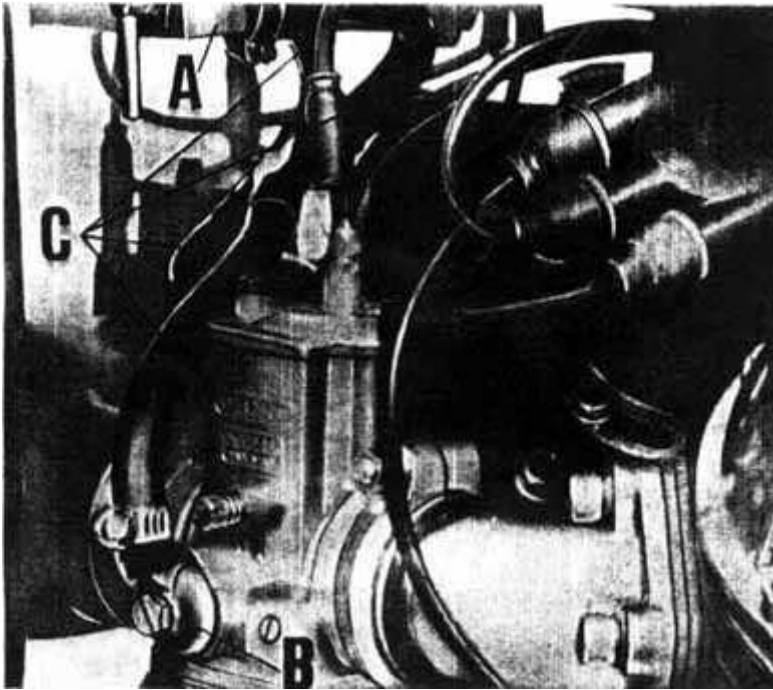

Fig. 20
**Filters and fuel lines** \(see fig. 20\) [\[return to index\]](#)
Every 10.000 kms. or so (6000) miles or any time fuel flow to the carburetors is not regular, it is necessary to check if there are no leakages at the fuel line connections (See C fig. 20) of if the filter on the taps (A) and the carburetors (B) are clean. If the plastic lines have got too hard at their connecting ends, replace them with original equipment.